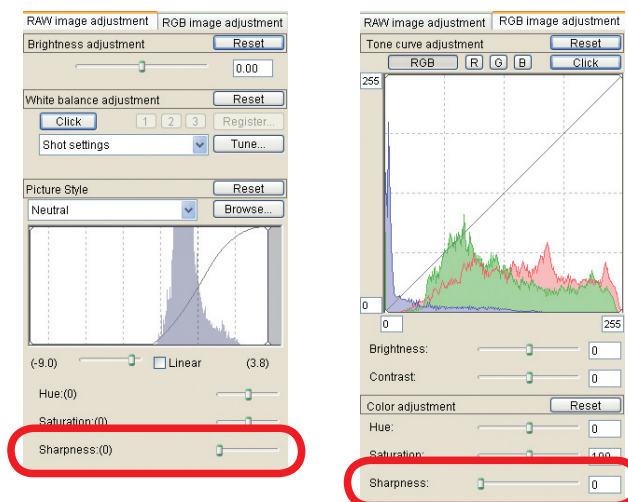

Fig. 019 Sharpness settings window (Raw image adjustment / RGB image adjustment)
- A sharpness function has been added that allows images to be checked and adjusted on screen in realtime (Fig. 019/highlighted in red frame). The resulting adjustments can be saved together with other adjustments as recipe data. The Sharpness setting used during image conversion and saving that was provided up until version 1.6 has been discontinued.